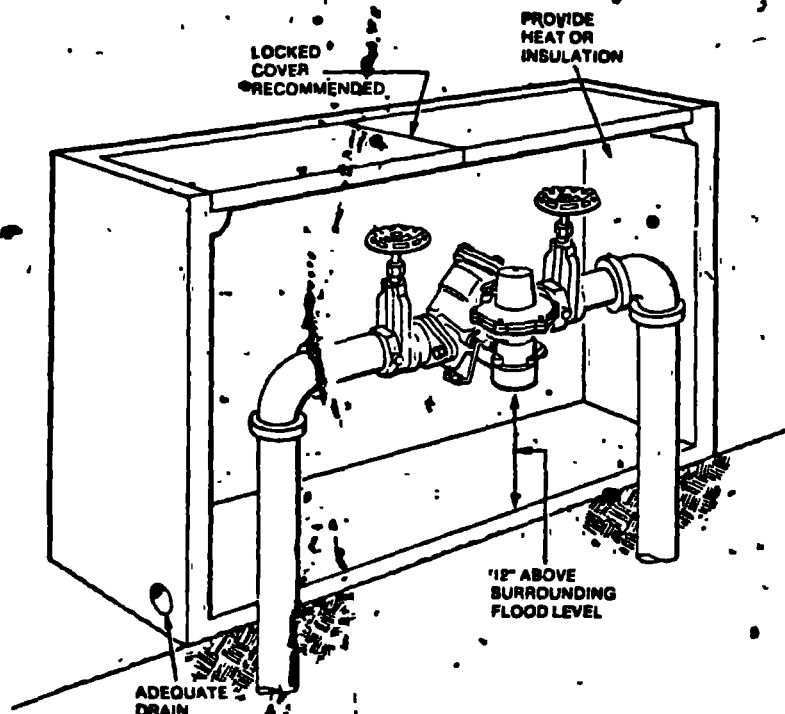

Figure 1. Above Ground Outdoor Installation
- 6 Install the backflow preventer at least 12 inches above the ground or surrounding flood level (Figure 1).
Installation - Indoors, Figure 1